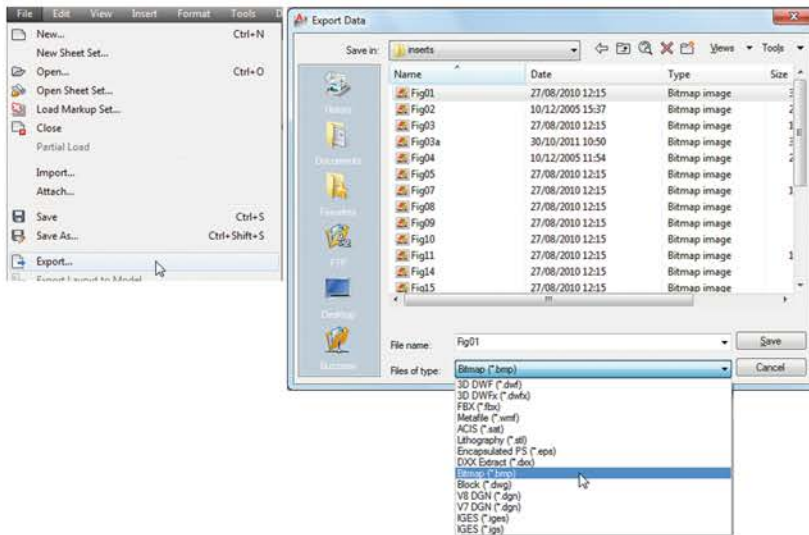

Fig. 14.3 The Export tool icon from the File drop-down menu and the Export Data dialog
1. With the same drawing on screen, *click* on **Export . . .** in the **File** drop-down menu (Fig. 14.3) or *click* **Export/Other formats** in the menu appearing with a *click* on the **A** icon at the top left-hand corner of the AutoCAD window. The **Export Data** dialog appears (Fig. 14.3). *Pick* **Encapsulated PS (*.eps)** from the **Files of type** drop-down menu, then *enter* a suitable file name (e.g. **building.eps**) in the **File name** field and *click* the **Save** button.